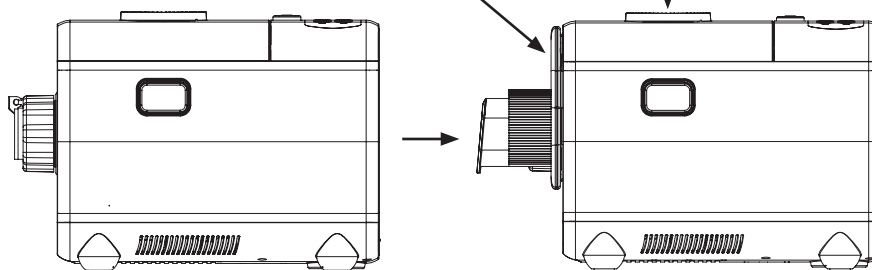

Fig. 9
- Install the Front Cover Panel as shown in Fig 9. The Panel will align with indents in the main housing. This Panel has a magnetic safety micro-switch and must be put in place for the unit to operate.